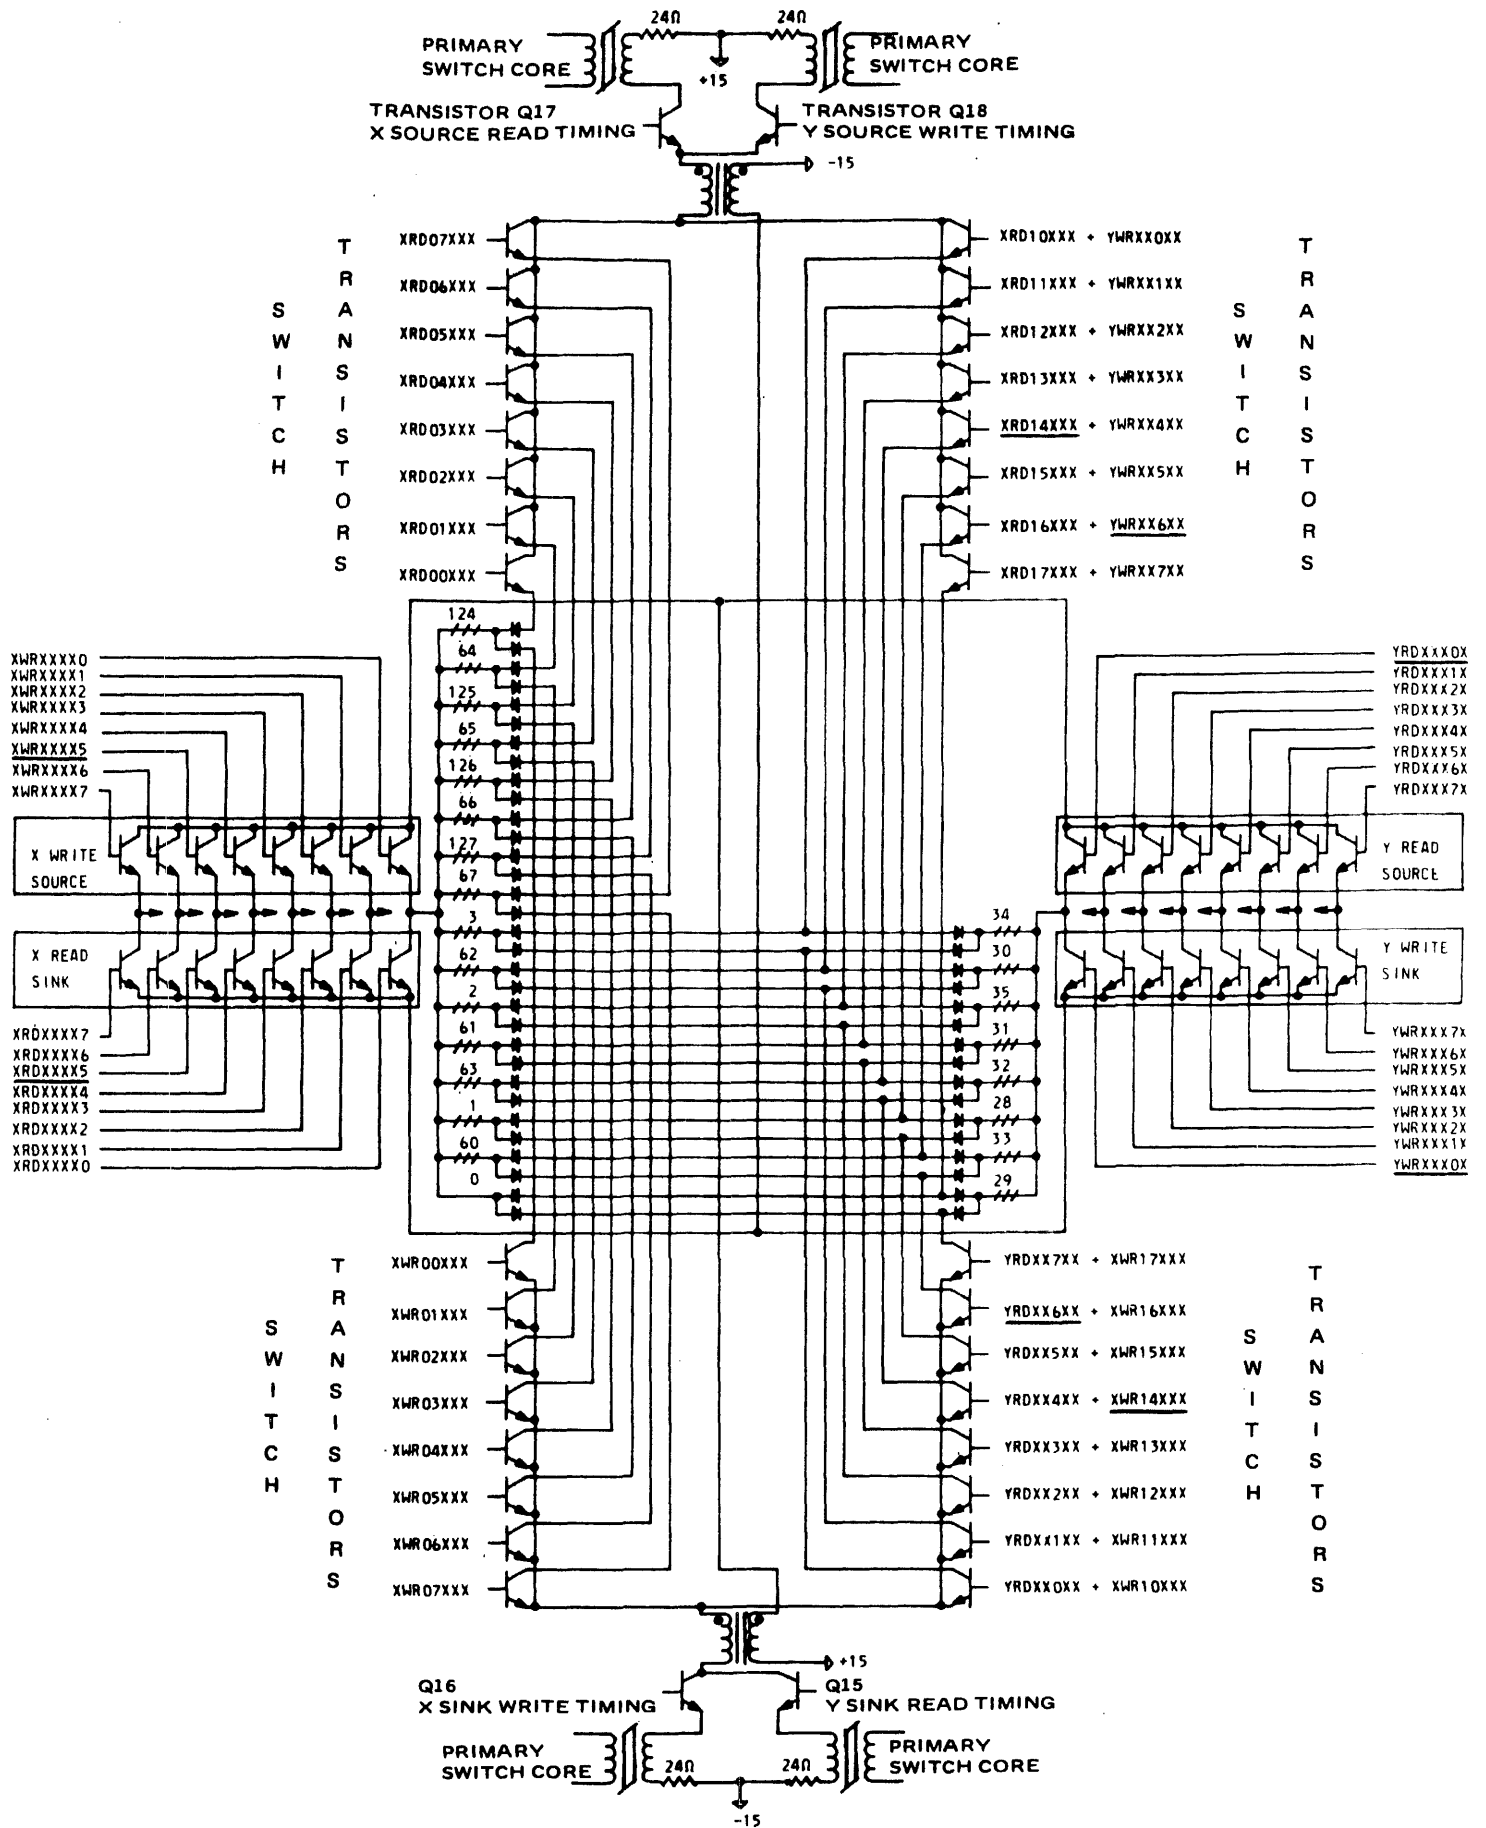

Figure 3-4
**CURRENT SOURCE, SWITCH, AND SINK.** For each current path, three transistors determine the path of the switching current from source to sink. The transistor nearest the positive voltage source is the source transistor, the one nearest the negative voltage source is the sink transistor, and the one between is the switch transistor. Figure 3-4 shows the current paths for some of the drive lines. Decoded address signals enable one source, one switch, and one sink transistor for each axis for both Read and Write operations.
**DRIVE LINE SELECTION.** Figure 3-4 is a simplified drive line scheme which depicts all basic drive line selection electronics on the Memory Electronics Assembly, but only one-eighth of the Core Array Assembly. For complete drive line details consult the Core Array Schematic in Section VI, Reference Documents. The decoded address signals which control transistor operation are shown along both sides of the illustration.
The eight underlined signals define Read and Write switching current paths for both axes for address 14605. For this address, the three signals which control drive current in a Write direction through Y drive line 33 are the Y Source Write Timing signal to the base of Q18, the YWRXX6XX signal to the base of the switch transistor, and the YWRXXX0X signal to the base of the Y sink transistor. To trace the Y Write current path in Figure 3-4, begin at the +15VDC source at the top of the illustration. The current path is from –